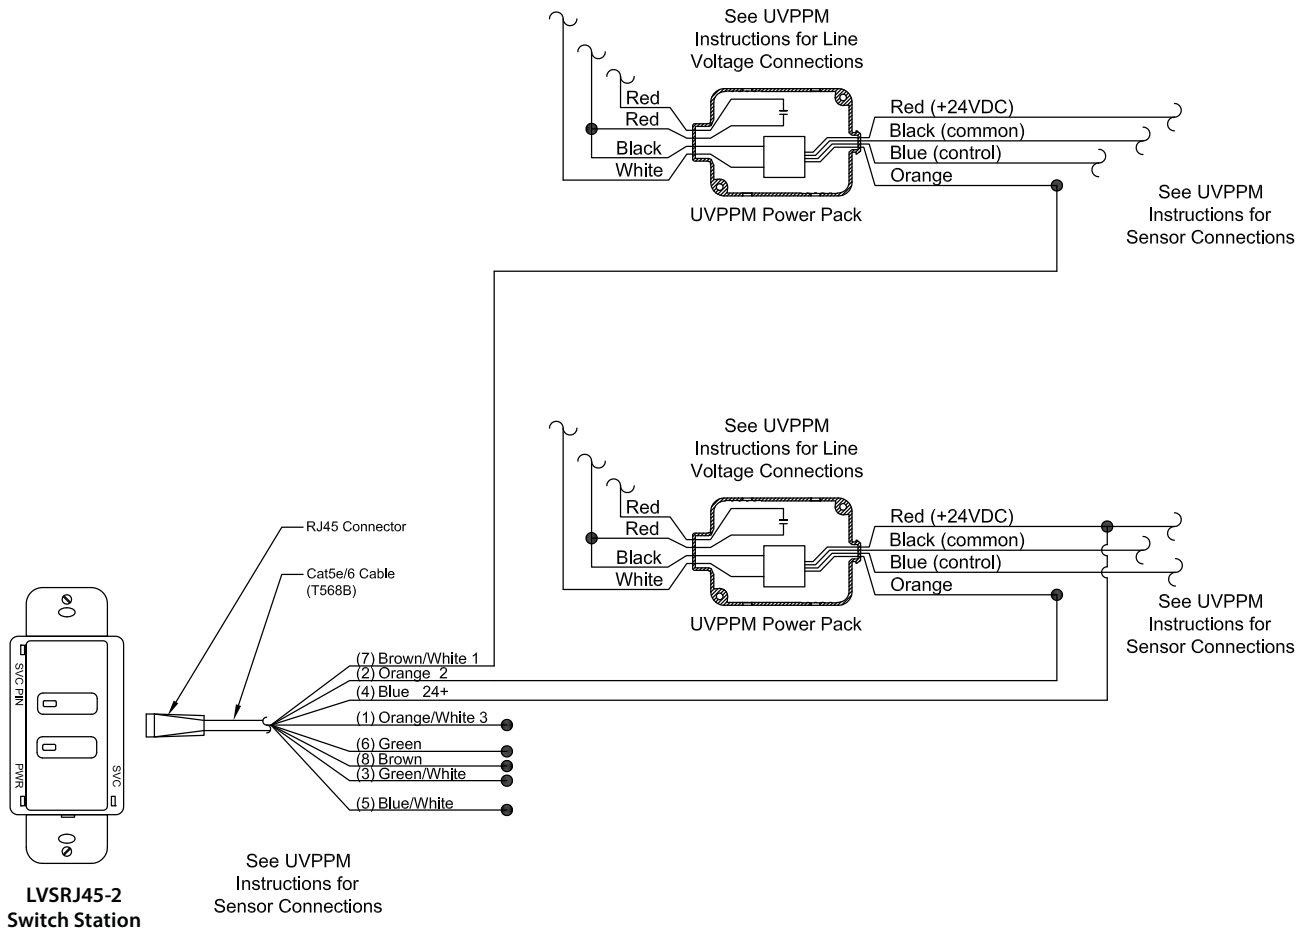

Figure 5
*Pilot Light functionality is not supported with UVPPM power packs *Fig 5*